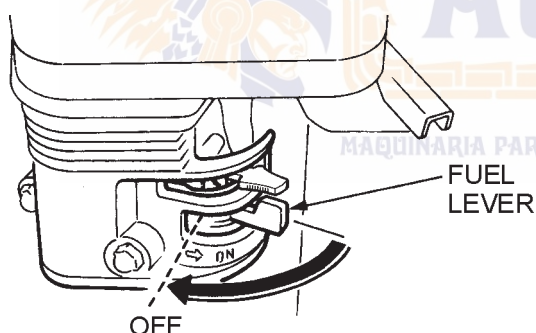

Figure 30. Fuel Valve Lever (Off)
2. Place the fuel valve (Figure 30) lever to the **OFF** position.